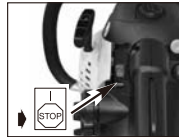

Fig. 9G
2. Press STOP switch down to stop engine Figure 9G.